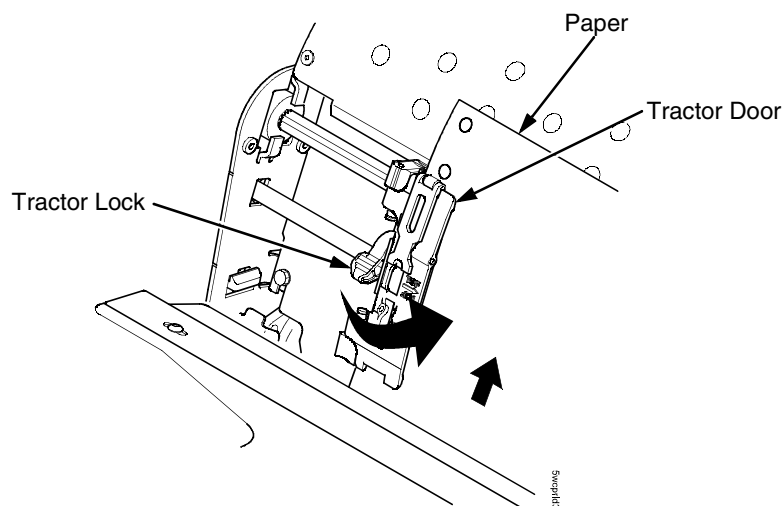

Figure 40. The Left Tractor
6. Pull the paper above and behind the ribbon mask, which is a silver-colored metal strip. Refer to the ribbon path diagram on the shuttle cover. Load the paper onto the left tractor sprockets and close the left tractor door. See Figure 40.